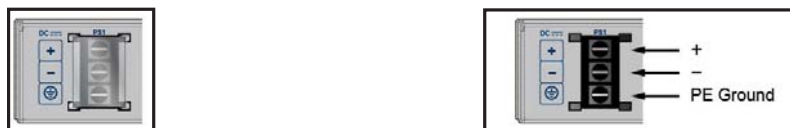

Figure 4-3: DC Input Terminals – terminal cover in place (left); terminal cover removed (right)
Figure 4-3 displays DC power terminals on the left side of the rear panel with the terminal cover in place (left illustration) and with the terminal cover removed (right illustration).
Step 2 Remove the terminal cover to expose the connectors (Figure 4-3 on page 12).